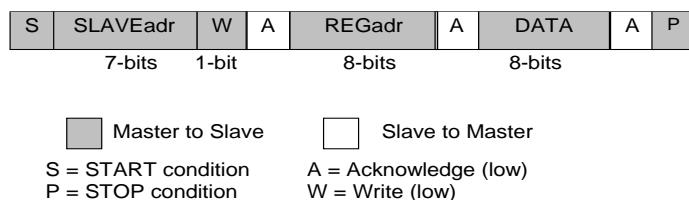
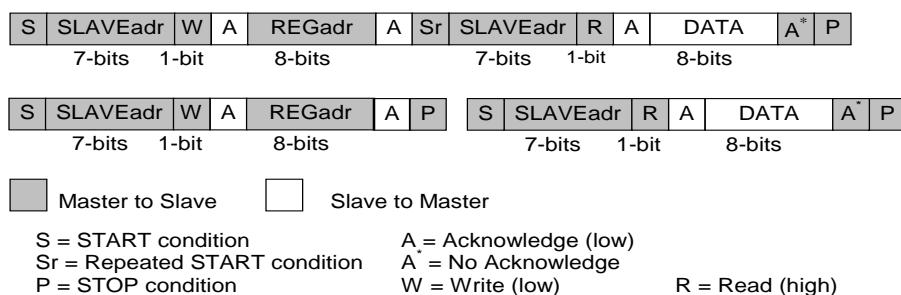

Figure 12: I²C Byte Write (SDA Line)
Figure 13: I²C Byte Read (SDA Line) Examples
The I²C bus is monitored for a valid slave address whenever the interface is enabled. It responds immediately when it receives its own slave address. The acknowledge is done by pulling the SDA line low during the following clock cycle (white blocks marked with A in Figure 12 and Figure 13).
The protocol for a register write from master to slave consists of a START condition, a slave address with read/write bit, and the eight-bit register address followed by eight bits of data, terminated by a STOP condition. DA9130-A responds to all bytes with acknowledgement (A), see Figure 12.
When the host reads data from a register it first has to write to DA9130-A with the target register address and then read from DA9130-A with a repeated START, or alternatively a second START, condition. After receiving the data, the host sends no acknowledgement (A*) and terminates the transmission with a STOP condition, see Figure 13.